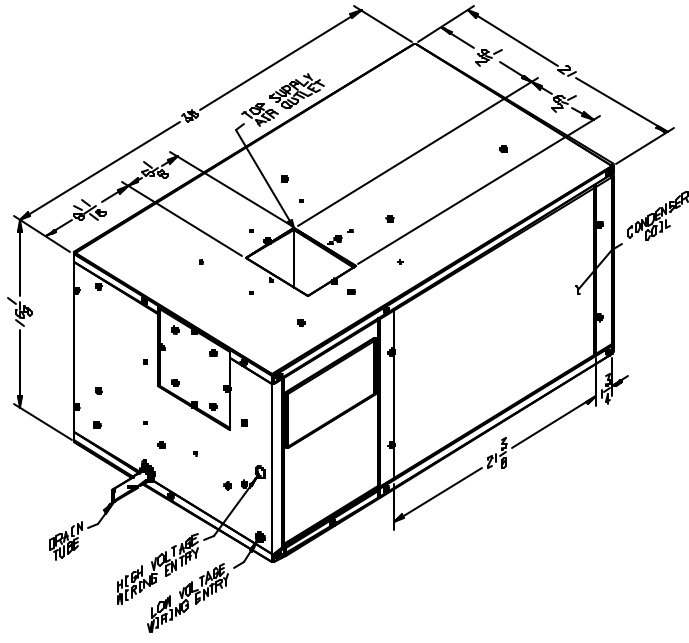

FIGURE 1
This unit may be mounted and ducted in any of three ways as described in the following text. Any mount method selected must allow for unrestricted air flow to and from the condenser coil. With perimeter mount systems, the condenser coil and wirebox access must be facing outboard (See Figure 1 & 2).
The usual mounting and ducting schemes are described (See Figure 1 & 2).
- b) A duct adaptor kit #6633-6151 consists of 4 10" diameter sheet metal starting collars. The pre-mounted collar mounts as shown in Figure 1 & 2 to the end of the unit after removal and discard of the end shipping plate and attached styrofoam block. **Do not remove the top shipping plate when using the end outlet.** The shipping plates and styrofoam blocks allow selection of top or